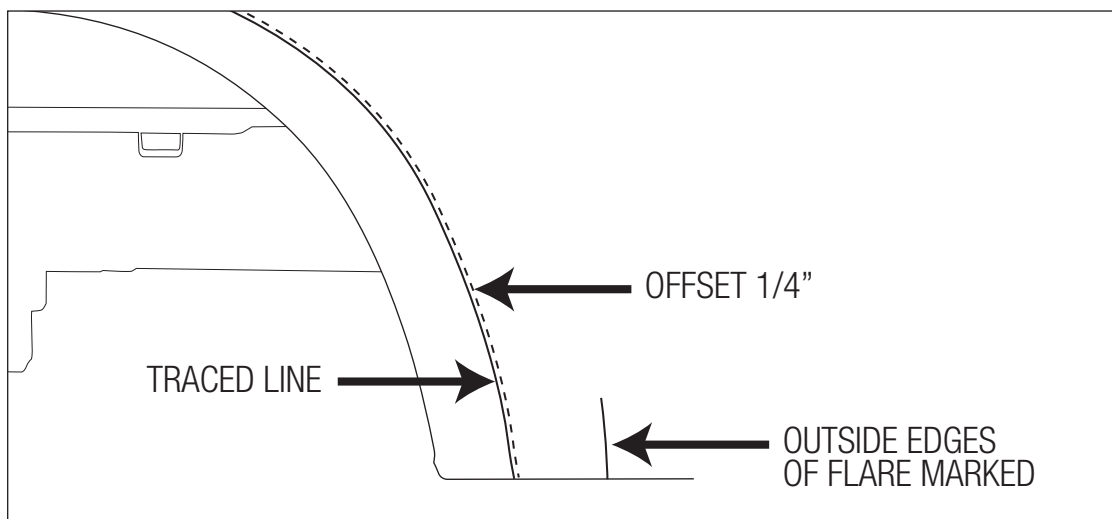

Figure 4 Marked cut line
- D. Remove the flare and draw a line offset approximately 1/4" from the arc marked in step B. This will be your cut line (fig. 4).
- F. With help, position the flare on bedside. Using the marks from Figure 4, center the flare in the wheel opening.